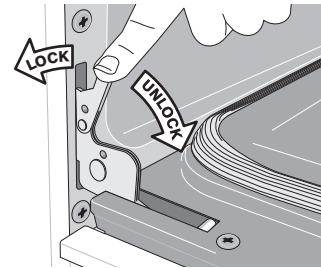

Figure 19: Door hinge locks
2. Pull the door hinge locks on both left and right door hinges down from the oven frame completely towards the oven door (See Figure 19). A tool such as a small flat-blade screwdriver may be required.
4. Push the door hinge locks up towards and into the oven frame on both left and right oven door hinges to the locked position (See Figure 19).